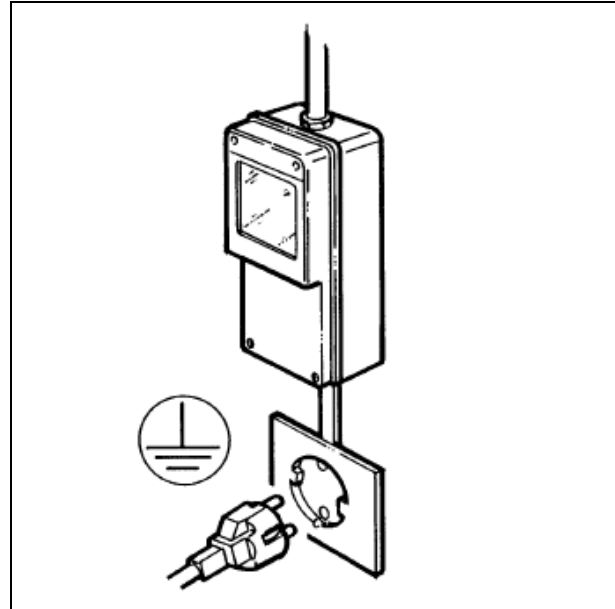

Fig. 20
- The machine's electrical safety is only guaranteed when it is connected to a suitable earth system, structured as provided by the national safety current regulations (fig.20). Therefore, the manufacturer cannot be held responsible for any damage due to failure of the grounding system of the machine.
- For a safe and correct installation, it is essential to provide a suitable socket controlled by a thermal cut-out switch whose contacts are at least 3 mm apart, in accordance with the current national safety regulations (see fig.20).